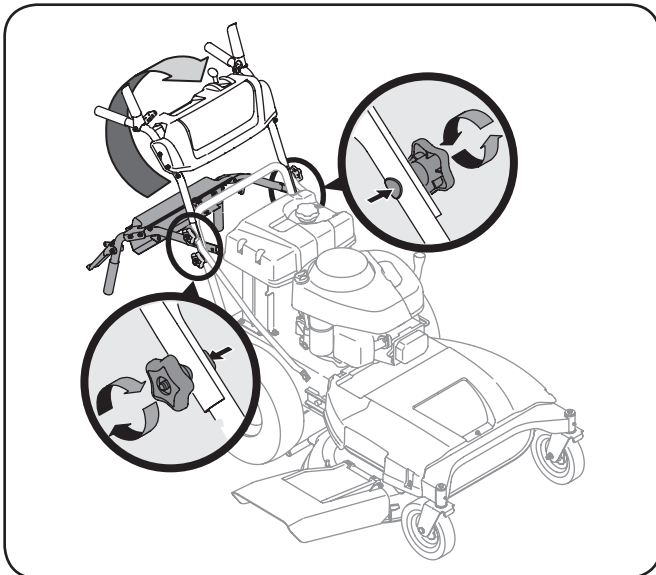

Figure 3-4
2. Pivot the upper handle into operating position. Be careful not to crimp cables. See Fig. 3-4.
4. Tighten the upper and lower star knobs and carriage screws to secure the upper handle to the lower handle, See Fig. 3-4.